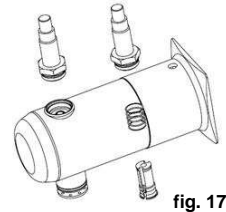

fig. 17
- With the wrench, unscrew the upper closing unit and lift-out the magnetic core and spring. (fig. 17)
- Place the spring and the magnetic core in the upper closing unit and with the wrench screw the upper closing unit onto the outlet part. (fig. 17, page 22)